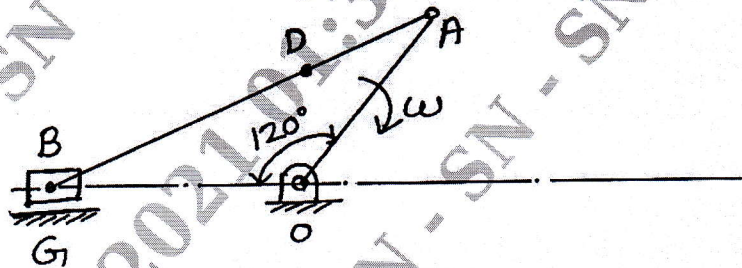

Fig. Q3
- 3 Fig. Q3 shows configuration diagram of an engine mechanism. The dimensions are the following : Crank OA = 200 mm, Connecting rod AB = 600 mm; Distance of centre of mass from Crank end AD = 200 mm. At the instant, the crank has an angular velocity of 50 rad/s clockwise and an angular acceleration of 800 rad/s². Calculate the (16 Marks)